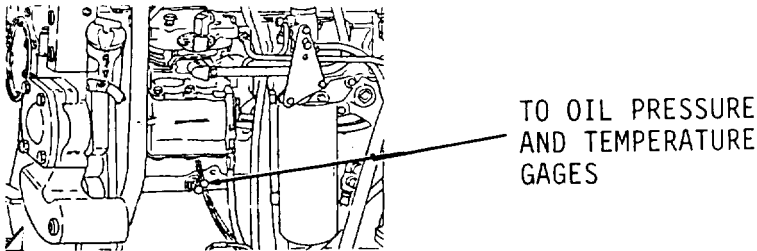

Figure 6-2.
Step 4. Check for worn bearings. Check oil pressure and temperature. Install suitable oil pressure and temperature gages in oil supply line (Figure 6-2). Start engine. Oil pressure should be 5 psi at idle and 15 psi at maximum engine rpm.